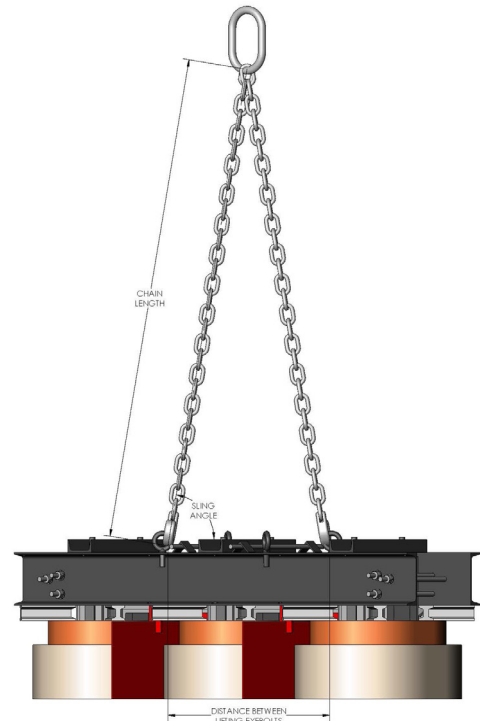

FIGURE 6
- (5) Ensure that the sling angle is less than 10 degrees (see figure 6 & table 1).